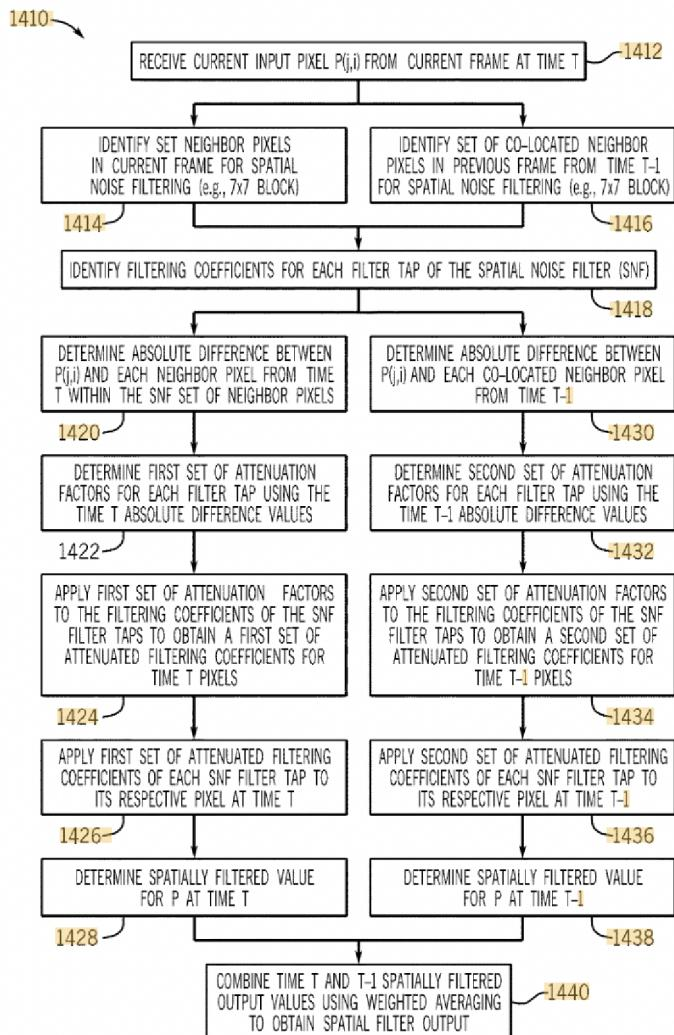

FIG. 116
- fig 116 which shows that we’re doing a whole lot of different operations across the entire image to gather data for optimization of the final photo.